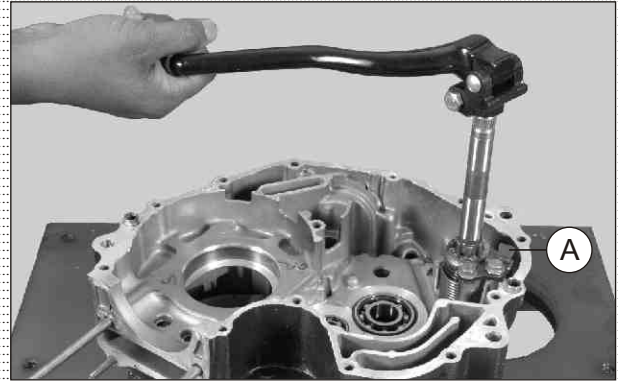

Fig. 3.176
- After assembling starter kick on the shaft, rotate shaft by one full clockwise rotation with the lever kick starter. Holding shaft in that position, press the starter kick and lock it under the guide kick starter (A). (Fig. 3.176)